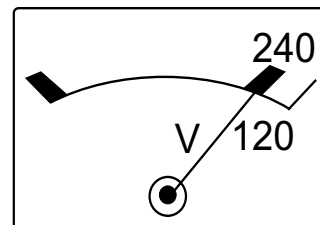

Figure 45. AC Voltmeter (120/240V)
- Also verify that the AC voltmeter is registering a voltage reading as indicated by Figure 45.
- Verify that the AC voltmeter is registering a voltage reading as indicated by Figure 45.